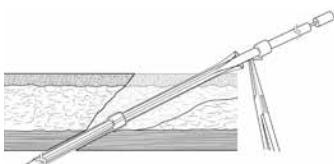

Figure 25
8. Advance catheter until distal cuff reaches rectus sheath. (There will be an increase in resistance to movement of the catheter) (Figure 25).